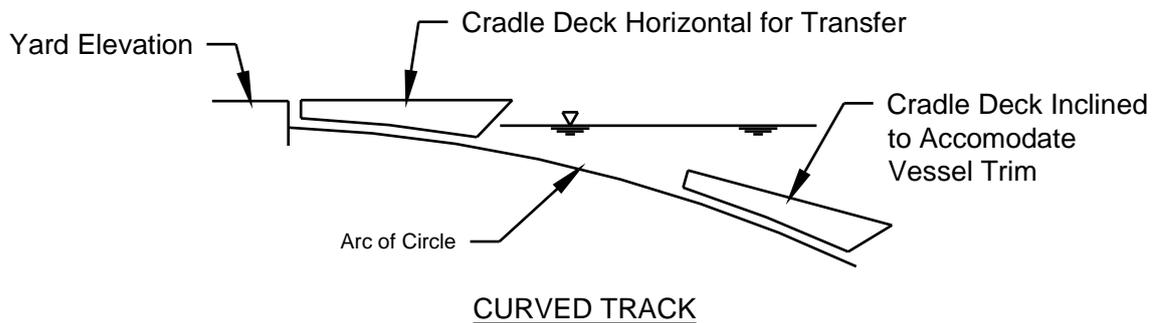

FIGURE 3
1. The cradle deck can be horizontal in the full up position allowing vessel transfer to shore and easy access. As the cradle is lowered down the track, the aft end rotates downward, providing deeper water over the aft end of the dock. This puts the block line on a trim, which can more closely match the trim of the vessel being docked. This reduces grounding stability problems and knuckle loads. Refer to Figure 3.